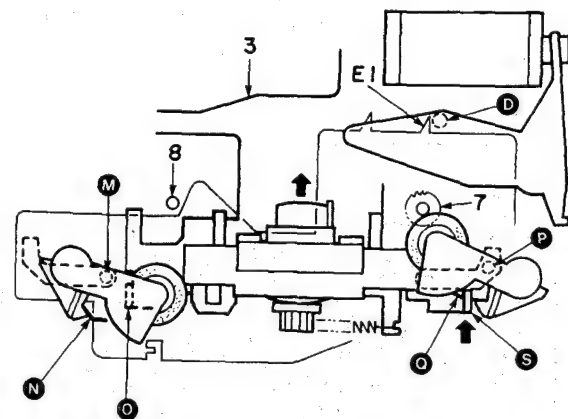

Fig. 7 (Perspective view from the front)
1-13) When the SUB-CHASSIS comes to the top, the spring (N) of the pinch roller (L) does not contact the SUB-CHASSIS edge (H) because the SLIDER is fixed in position of Fig. 7 by the pin (D) of the FD ARM, and the pinch roller is not pressed against the capstan because the boss (M) is held by the groove of the SLIDER.